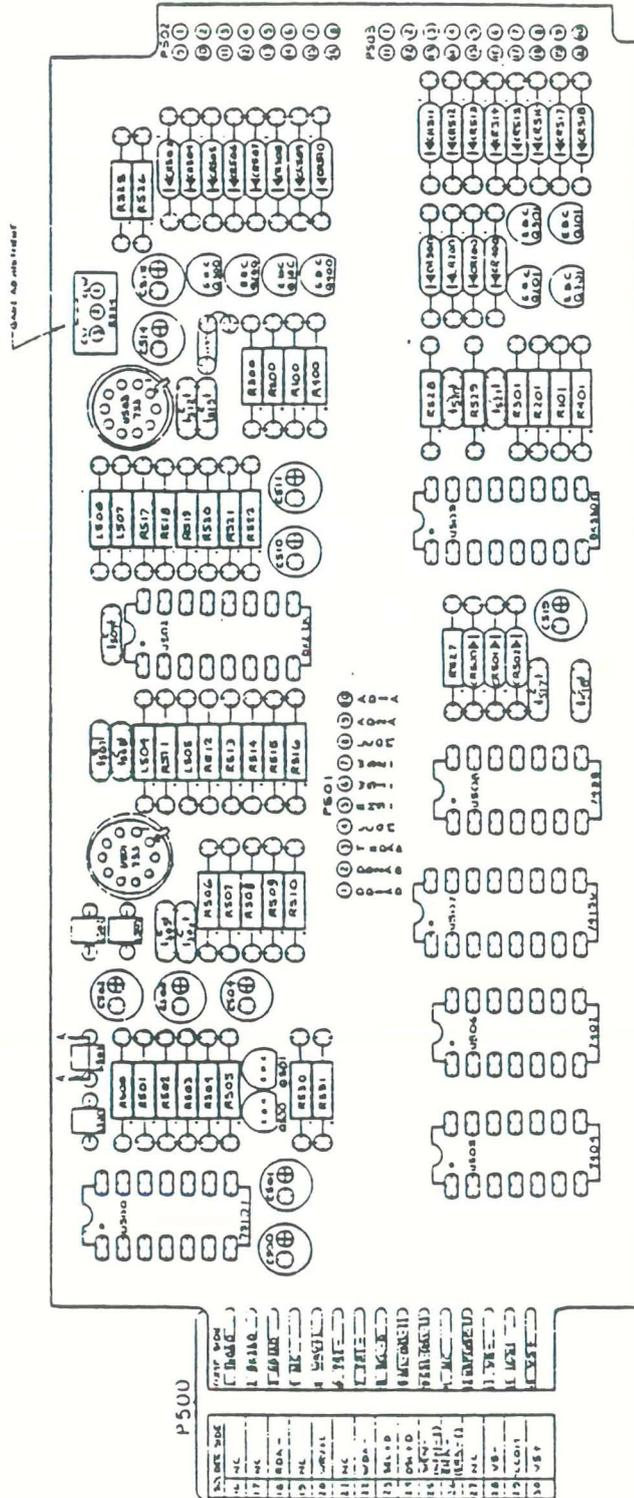

Figure 6-3. Data C Board
The potentiometer location is shown in Figures 6-3 and 6-4 and the test point (TP) is shown in Figures 6-5 and 6-6.
3. After determining which track exhibits the lowest amplitude read envelop while in the read-while-write mode, adjust R524, Figures 6-3 and 6-4 until signal (approximately a sine wave in appearance) is $1.9 \text{ Vdc} \pm 2 \text{ dB}$ while in the read reverse pass after writing this track with the lowest amplitude.